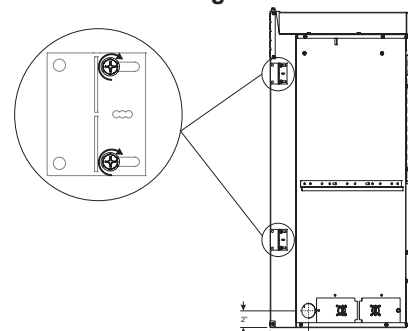

Figure 30
4. Loosen but do not remove the eight screws securing the nailing flanges to the firebox. See **Figure 30**.